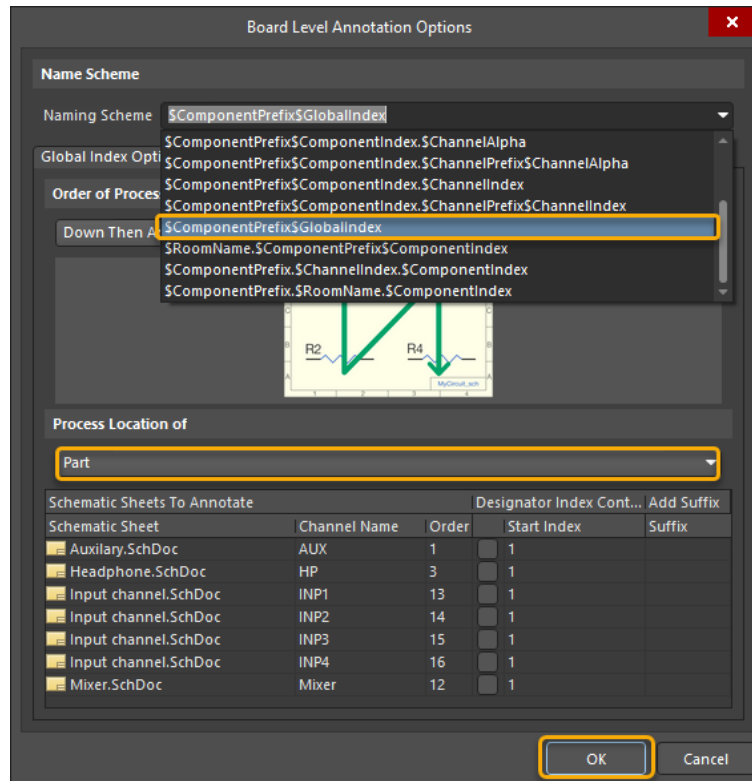

Figure 3. Board Level Annotation Options
- In the dialog that opens, see Figure 3, change the Naming Scheme from the drop-down to `$ComponentPrefix$GlobalIndex`. This selection sets a flat naming convention, reminiscent of the standard annotation settings.